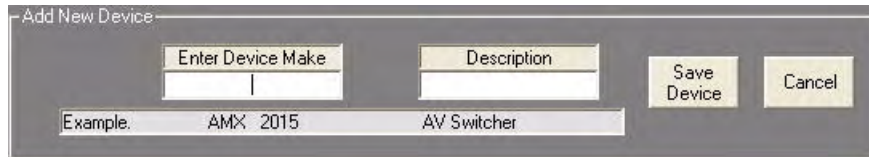

FIG. 35 AMX RS232 Library dialog - Add New Device window
1. Click the **Add New Device** button in the *Edit* options (see FIG. 34) to invoke the *Add New Device* window (FIG. 35).